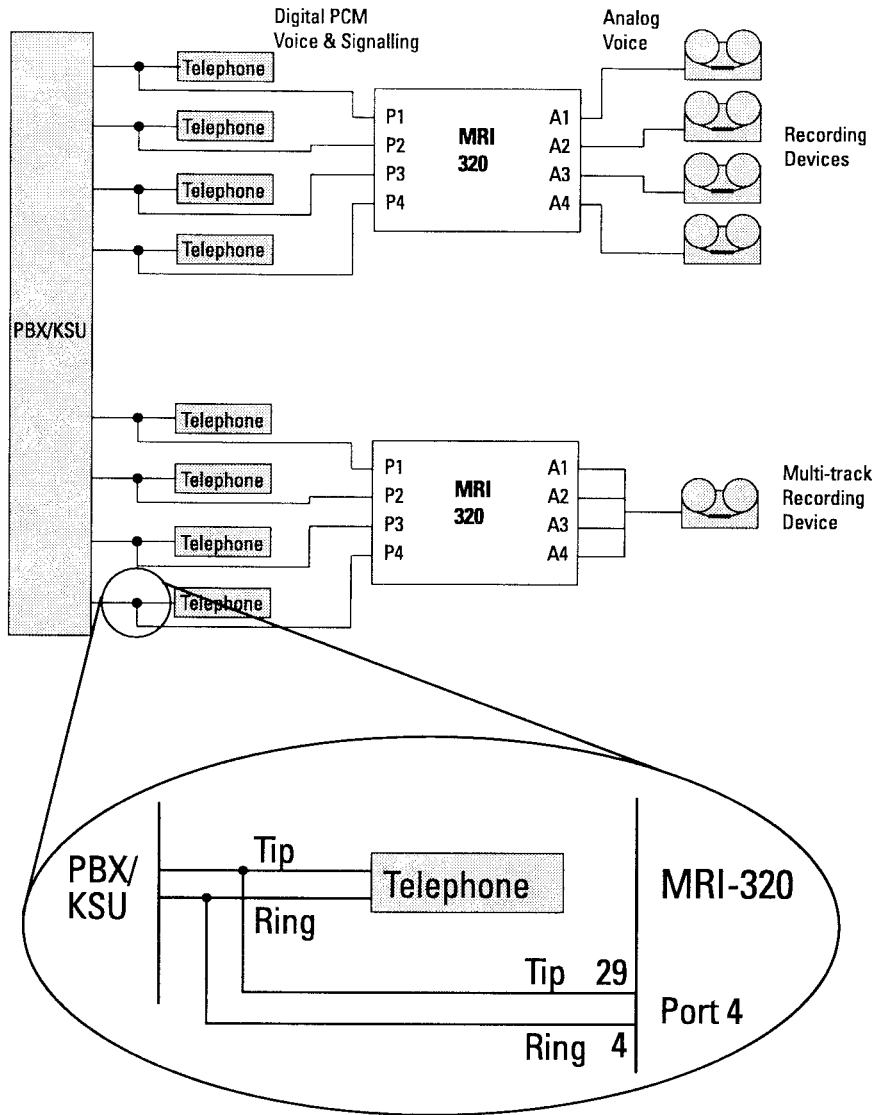

Fig. 10
** See Fig. 10 for detailed view.